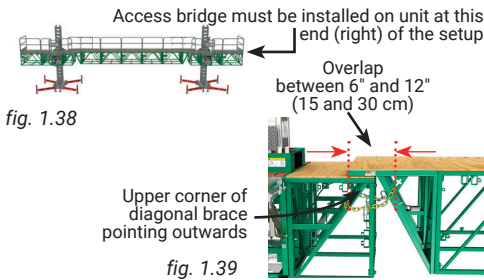

fig. 1.38
- 1- Prepare the first motorized unit and the area where the setup will be installed. If the twin units setup will be equipped with an access bridge, it is important to make sure that this access bridge is installed on the motorized unit located the furthest on the right side of the installation (fig. 1.38).